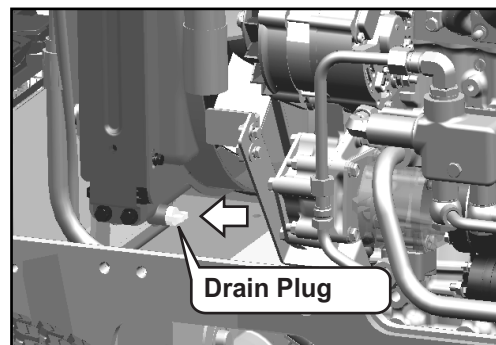

Fig. 5.6a
1. Remove the radiator cap and drain plug (fig. 5.6a).